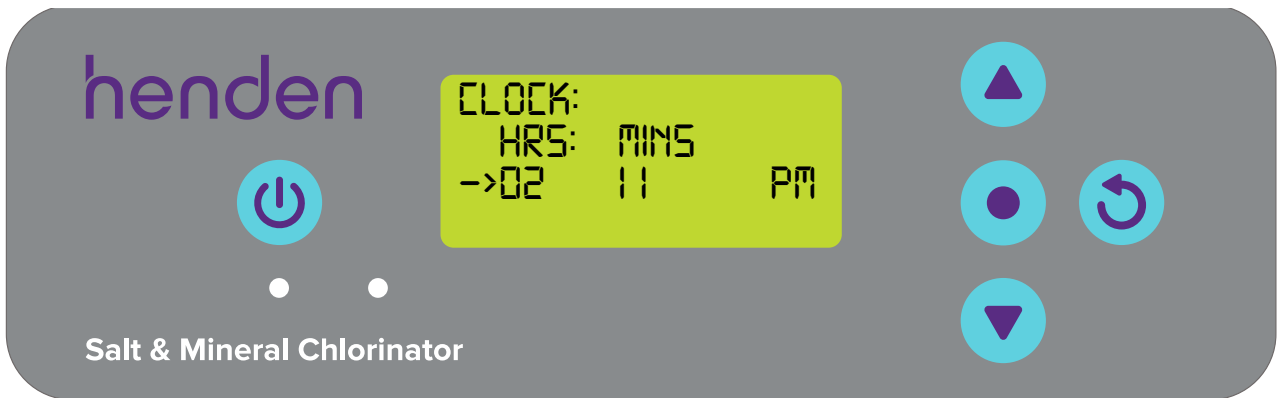

Figure 6.3
- The next screen shown is the **CLOCK** menu (refer Figure 6.3)